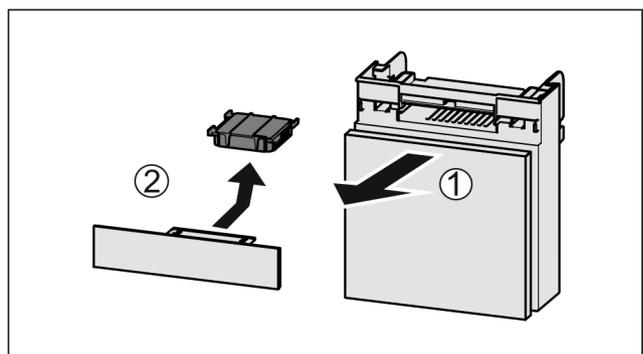

Fig. 39
- ▶ Pull out the compartment *Fig. 39 (1)*.
- ▶ Remove the carbon filter *Fig. 39 (2)*.